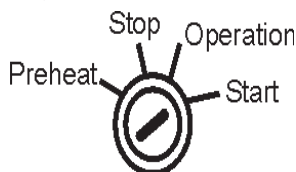

Figure 41. Starter Switch
- Preheat the engine by turning the ignition key to the left. Once the preheat lamp luminates, turn the key to the farthest right to start the engine. Once the engine start to crank, release the key to 'operation' (Figure 41).